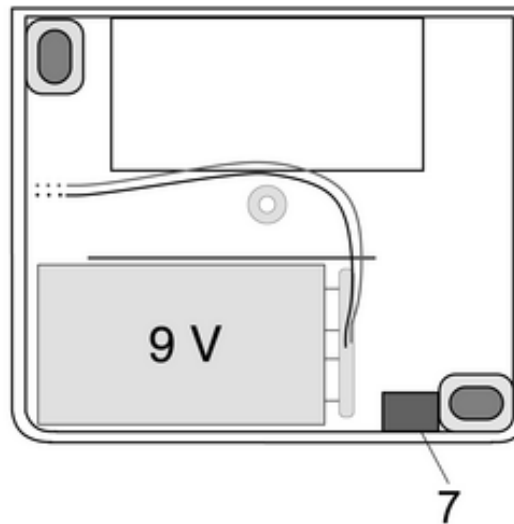

Figure 9
- Open the condensation water hole (7) in the base plate, except in case of installation in dusty rooms (Figure 9).